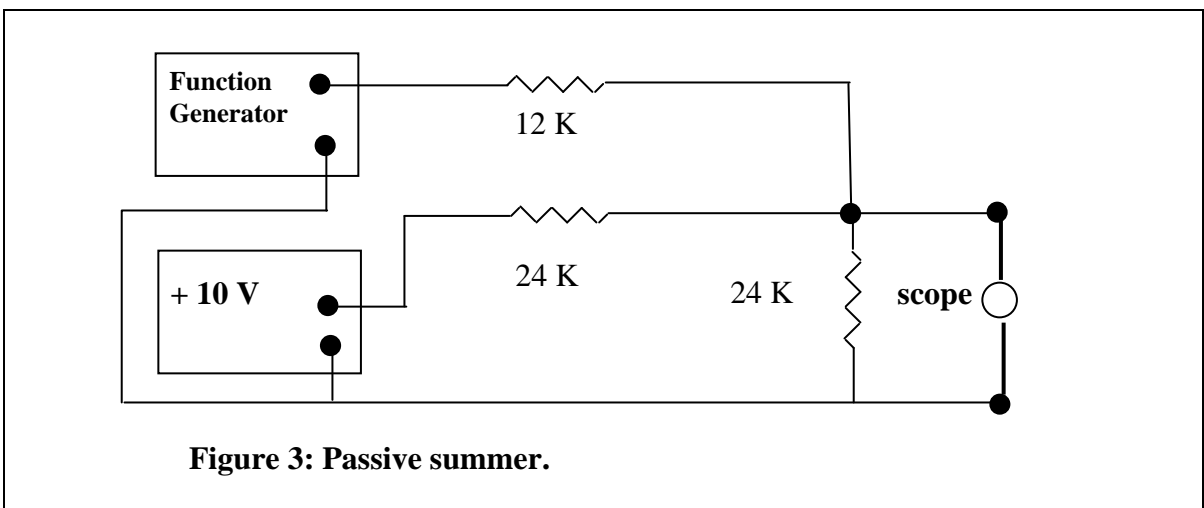
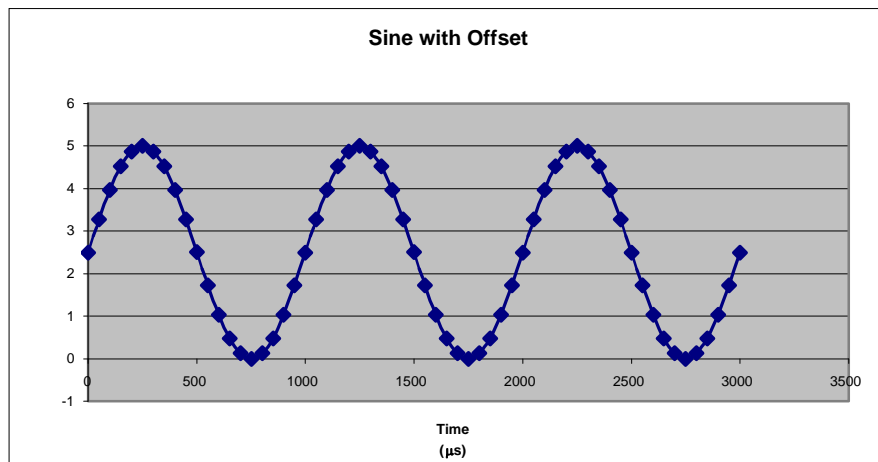

Figure 3: Passive summer.
Figure 4: Output of Passive Summer.
3. *Passive Summer*: The summer adds the DC voltage from the power supply to offset the ac voltage from the function generator (Figure 3). Suppose the function generator is an ideal voltage source (no internal resistance) creating a sine voltage $V_{AC} = 5 \sin(2\pi ft)$, where f is the frequency and the amplitude is 5 volts. Assume that the 10-volt supply is an ideal voltage source. **To be done before class**: Show that the output is always positive and looks like the curve in Figure 4 below.